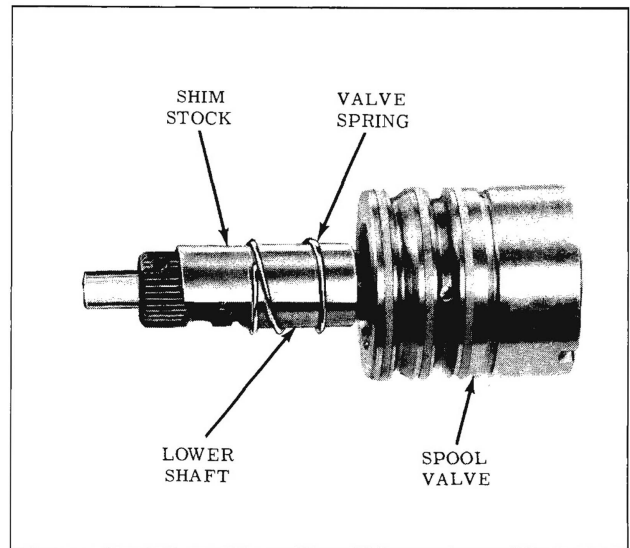

Fig. 4-265 Installing Valve Spring
6. Slide the valve spring over the lower shaft, large end first, and down into the spool valve until the top coil of the spring is in the shaft groove. (Fig. 4-265)